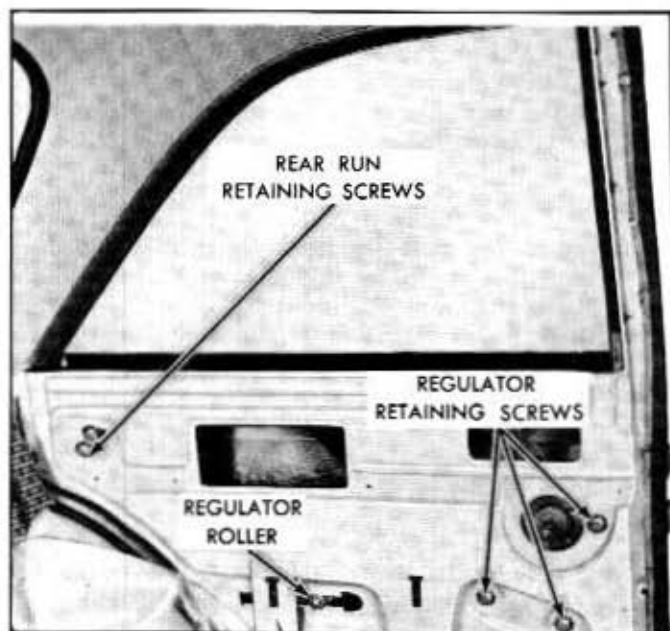

Fig. 13C-12—Quarter Window—(60C-8010)
- Fore or aft adjustment can be made at the rear run attaching screws. See figure 13C-12.